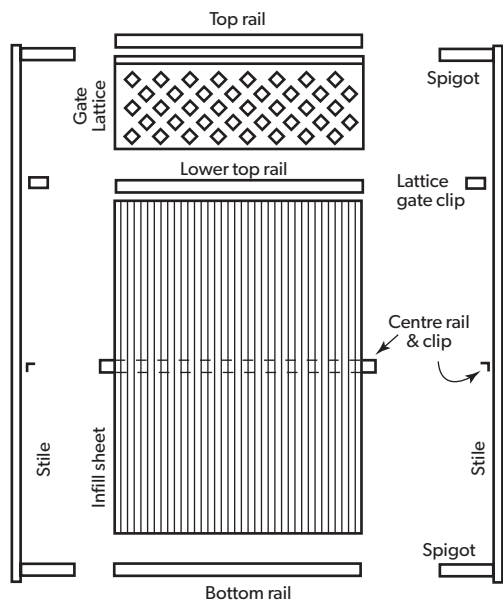

Figure 23.2
2. For extra-wide gates: overlap sheets to the desired width (Figure 23.1). Join the two sheets with hex. head screws #10-16x16 through the overlaps, at both top and bottom edges (Figure 23.2).
7. Insert the spigots of both stiles into the top and bottom rails and locate the centre rail on its clips. If a lattice is used, ensure that the lower top rail fits neatly onto the lattice gate clips (Figure 23.2). Even up the sheets by bumping the ribs with the palm of your hand.
8. Hold both stiles firmly in place and drive one hex. head screw #10-16x16 in each of the four corners, 20mm from the inside edge of the stile (Figure 23.2).
9. Check squareness by measuring the gate's diagonals. Drive a second hex. head screw (#10-16x16) in each of the four corners, 170mm from the stile (Figure 23.2).